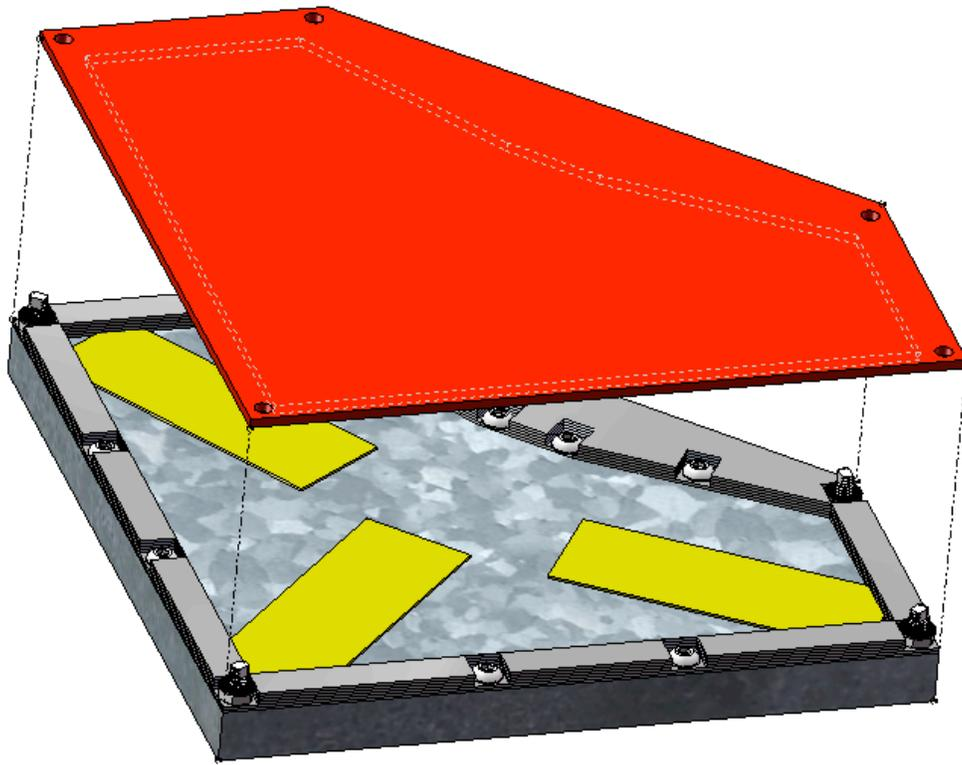

Figure 3-17: Sound barrier panel located on top of prior assembly
- 15) Place the sound barrier panel on top of the assembled parts from earlier, aligning it to the five outside corner threaded links. See Figure 3-17.